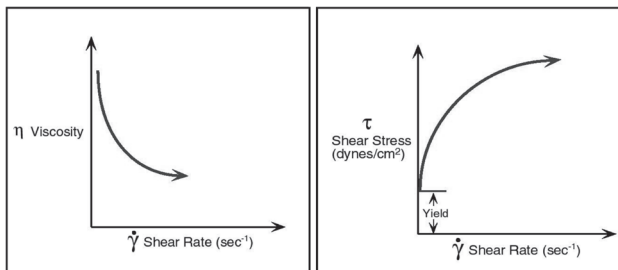

Figure 4-5
**PLASTIC:** This type of fluid will behave as a solid under static conditions. A certain amount of stress must be applied to the fluid before any flow is induced; this stress is called the “yield stress” ( $f'$ ). Tomato catsup is a good example of this type fluid; its yield value will often make it refuse to pour from the bottle until the bottle is shaken or struck, allowing the catsup to flow. Once the yield value is exceeded and flow begins, plastic fluids may display Newtonian, pseudoplastic, or dilatant flow characteristics. See Figure 4-5.